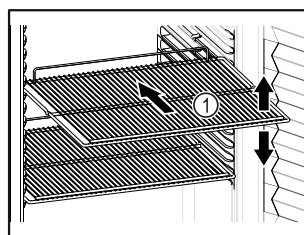

Fig. 18 Example illustration
- ☐ If storage surfaces Fig. 18 (1) are movable, adjust them according to height.